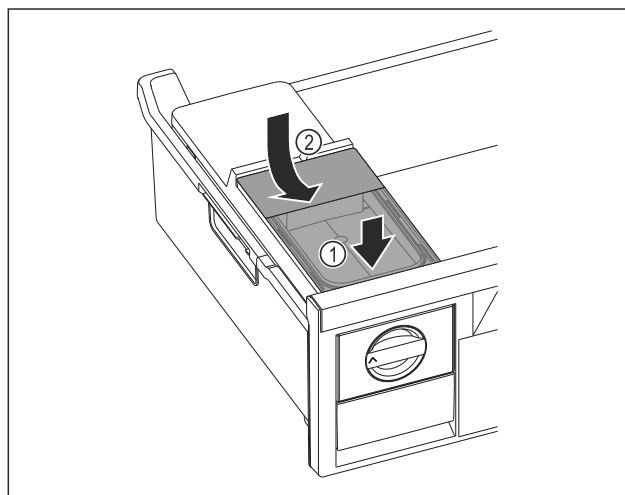

Fig. 77
- Position the water tank at the front. Fig. 77 (1)
- Lower the water tank at the rear. Fig. 77 (2)